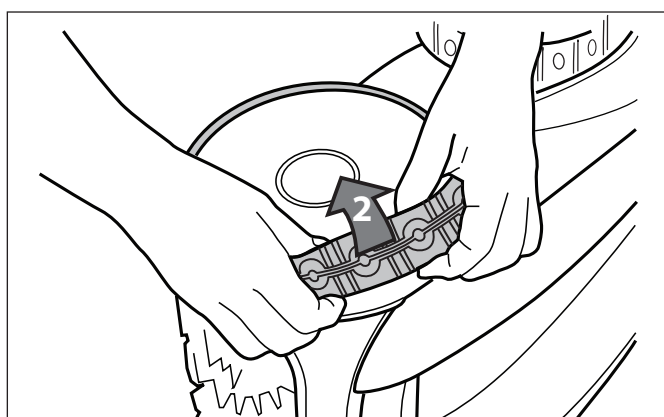

Figure 39. Remove the Old Tyre
2. Remove the old tyre (Figure 39).